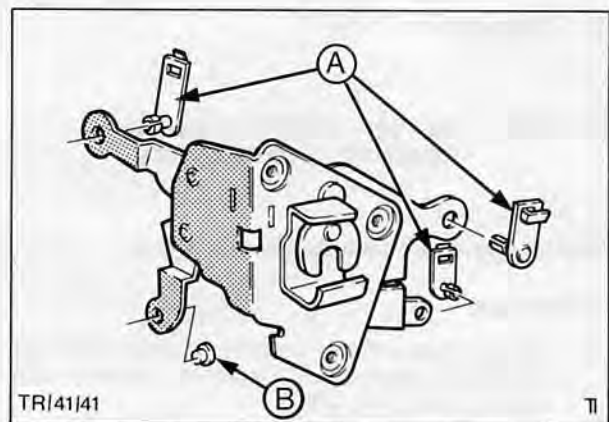

Fig. 21. Bush and clip assembly front door (hinged) lock
6. If new lock is being fitted, assemble three clips and one bush to levers, as shown in Fig. 21.